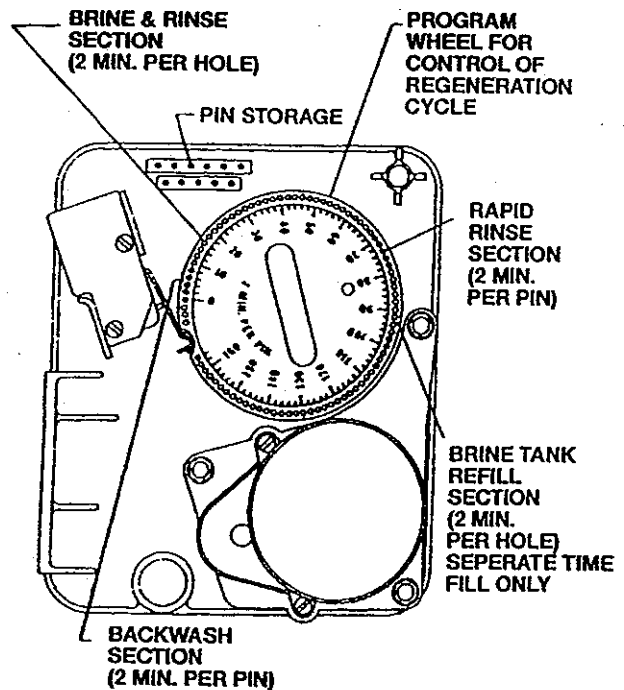

Figure 2
Each control valve position can be manually selected by rotating the **manual regeneration knob** clockwise until first microswitch located on rear of timer door is aligned with each cycle position on the program wheel. (See Figure 2.)
1. Manually index **manual regeneration knob** to **BACKWASH** position and allow water to run to drain for 3 - 4 minutes. (See Figure 2.)
2. Manually index **manual regeneration knob** to **BRINE REFILL** position and allow the $KMNO_4$ tank to fill until it stops. (See Figure 2.)
4. Manually index **manual regeneration knob** to **SERVICE** position. (See Figure 2.)
5. Manually index **manual regeneration knob** to **BRINE TANK REFILL** position and allow the control valve to automatically fill the $KMNO_4$ tank. (See Figure 2.)
NOTE : Figure 2 shows the skipper wheel set for every two (2) days.